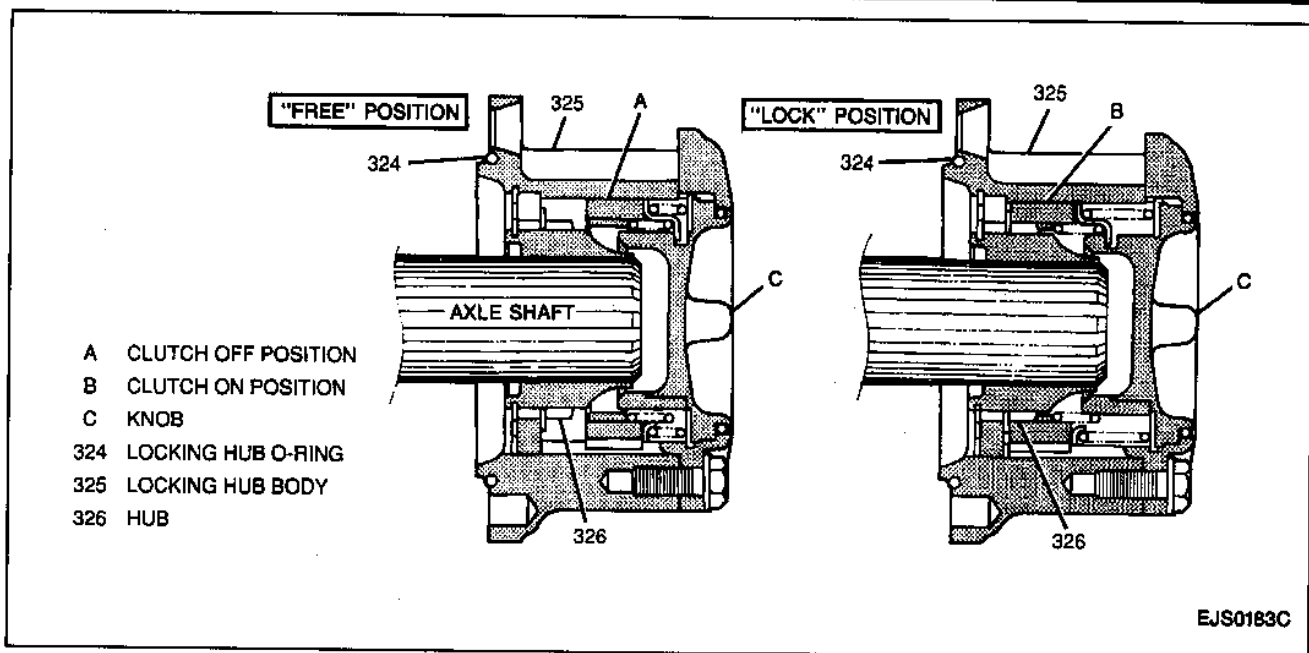

Figure 18—Locking Hub Operation
### Figures 18 and 19
- Hub cover clutch must be pulled out toward locking hub cover (Figure 18).